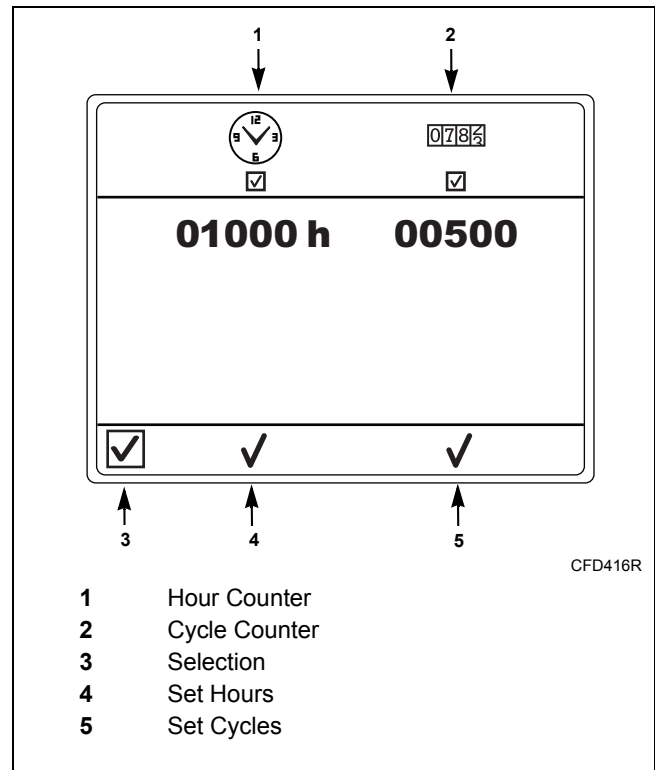

Figure 72
1. Press the keypad below the Selection icon to activate one or both counters. Refer to *Figure 72*.
2. Press the keypad below the Set Hours icon to set the number of hours after which the warning is to be generated. Refer to *Figure 72*.
Press the keypad below the Set Cycles icon to set the number of cycles after which the warning is to be generated. Refer to *Figure 72*.